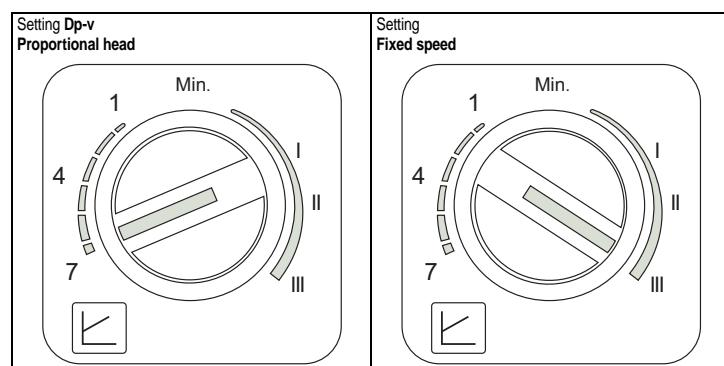

fig. 18
- Setting Fixed speed (fig. 18)